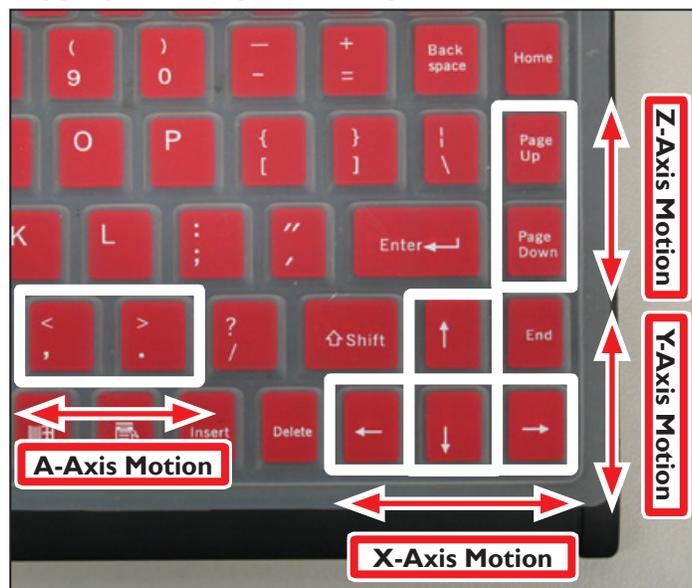

Figure 6.6
**Jogging Controls** – The mill can be jogged with either the optional Jog Shuttle shown in **Figure 6.5** or with the keyboard (see **Figure 6.6**):
In *Continuous* mode, the mill jogs at a continuous velocity when you press and hold any available keyboard key; stop the mill by releasing the key. Axis motion is key-specific as shown in **Figure 6.6**. The velocity is set using the *Jog Speed Slider* (see **Figure 6.7**). To set jogging velocity to the maximum speed, click and drag the *Jog Speed Slider* to the far right position.